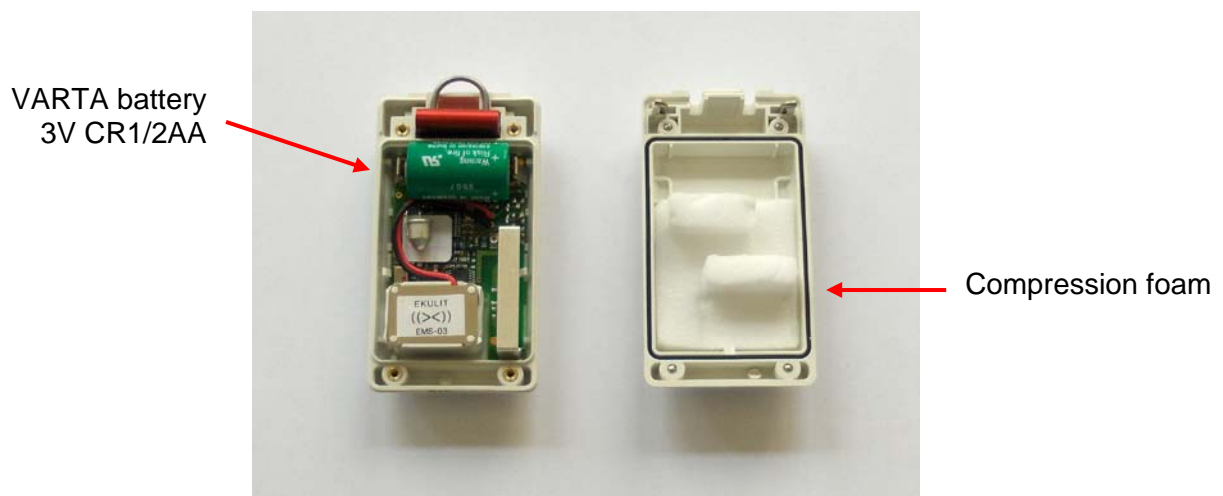

Fig. 4. Opening the ManDown Sensor
- Carefully place the compression foam as shown in *Fig. 4. Opening the ManDown Sensor.*